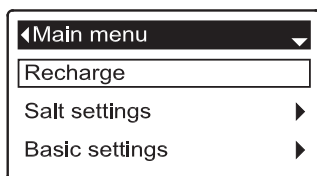

FIG. 80
During normal operation (status screens rolling), press the conditioner/refiner's SELECT (O) button to display the Main menu (See Figure 80). This menu and its subsidiary screens are used to control these operations: